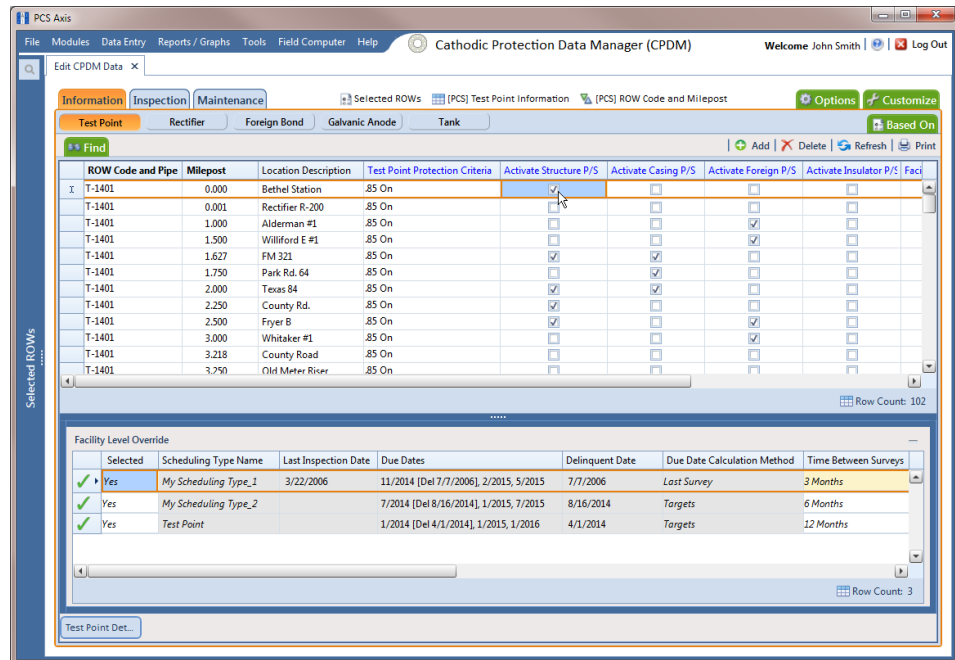

Figure 7-123. Information Grid - Test Point Tab
- 3 Open the *Information* grid for a facility type. For example, click the **Information** tab **Information** and then a facility type button, such as **Test Point** **Test Point** (Figure 7-123).